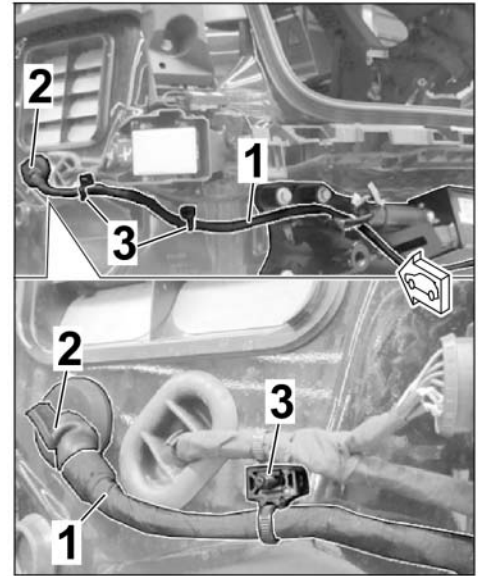

Figure 6
2.2.3 Install tie-wraps for wire harness (2 x) on threaded bolts on the outside of the vehicle (⇒ *Figure 6*).